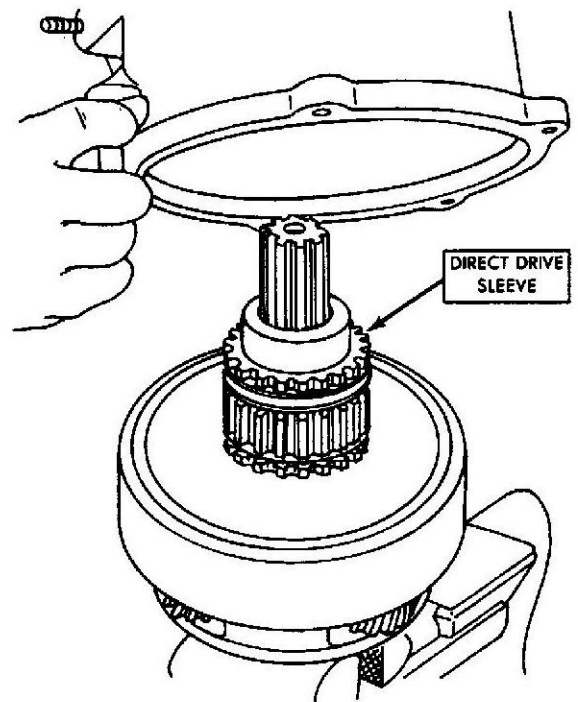

Fig. 4 Housing Removal - Installation
- (7) Lift reduction unit housing upward and off gear train (Fig. 4).
- (8) Slide direct drive sleeve off main shaft.